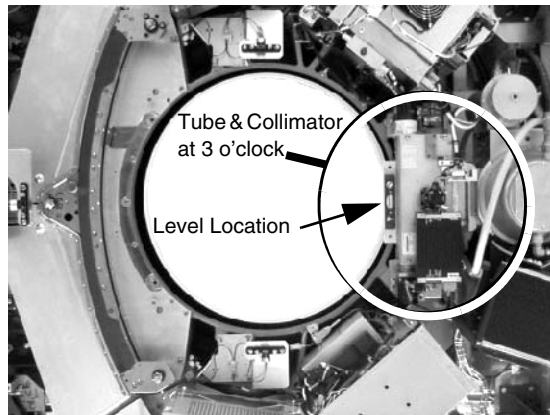

Figure 1-23 Three o'clock position
- 4.) Rotate gantry by hand until collimator face plate is at 3 o'clock (refer to Figure 1-23). Use 9-inch level to verify plate is vertical. With power off, the gantry movement is tight.